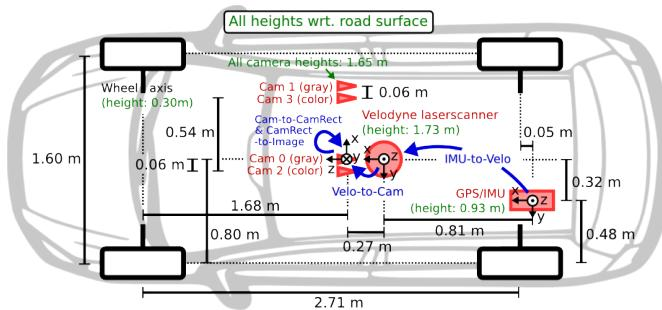

Figure 1: Camera setup.
- **image\_2** is the RGB image received from left RGB camera (Cam 2 in Fig.1). A capture by the camera is triggered when the velodyne is looking exactly forward.
3. In this exercise, you have projected LiDAR points onto images. In the setup in Fig.1, the LiDAR sensor and the Cameras are non-cocentered – it can never be exactly non-cocentered. What problem this may cause for the data projection between the two sensors (LiDAR and Cam2 for instance)? Do you think this problem will be more severe or less severe when the two sensors are more distant from each other?